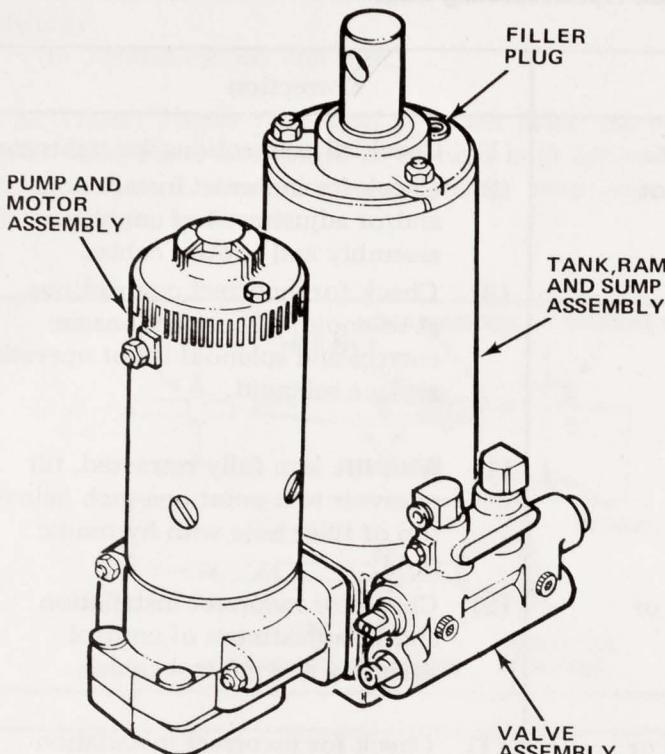

Fig. 1-42 Super Electrolift U-13
(1) Remove filler plug from reservoir (fig. 1-42).
NOTE: Prior to disassembly, remove filler plug and drain fluid from reservoir (fig. 1-42). Clamp the base in a vise and proceed with disassembly. Subassemblies can be removed without disassembling the unit completely.